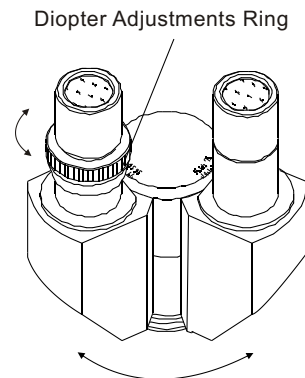

Figure 4
- 1) **Diopter Adjustment** Proper correction for individual vision is accomplished via the diopter adjustment located at the left eyepiece, see figure 4. Using the 40X magnification objective, bring An image into focus with your right eye only. Once the image is well focused, observe with left eye, make fine adjustments with the diopter Adjustment ring to correct for your Vision.
- 2) **Proper interpupillary distance**, Or the distance between eyepieces, is crucial to the comfort of the user. Adjusting the interpupillary distance is accomplished through a "folding" action of the optical head, at figure 4, allowing for quick and easy adjustment.